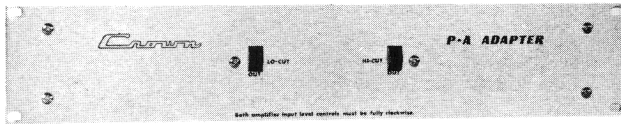

FIGURE 1.
2. Ground No. 1 input (chan. 1) by soldering a 3/4" bare wire (as shown in Figure 1) between points A and B.